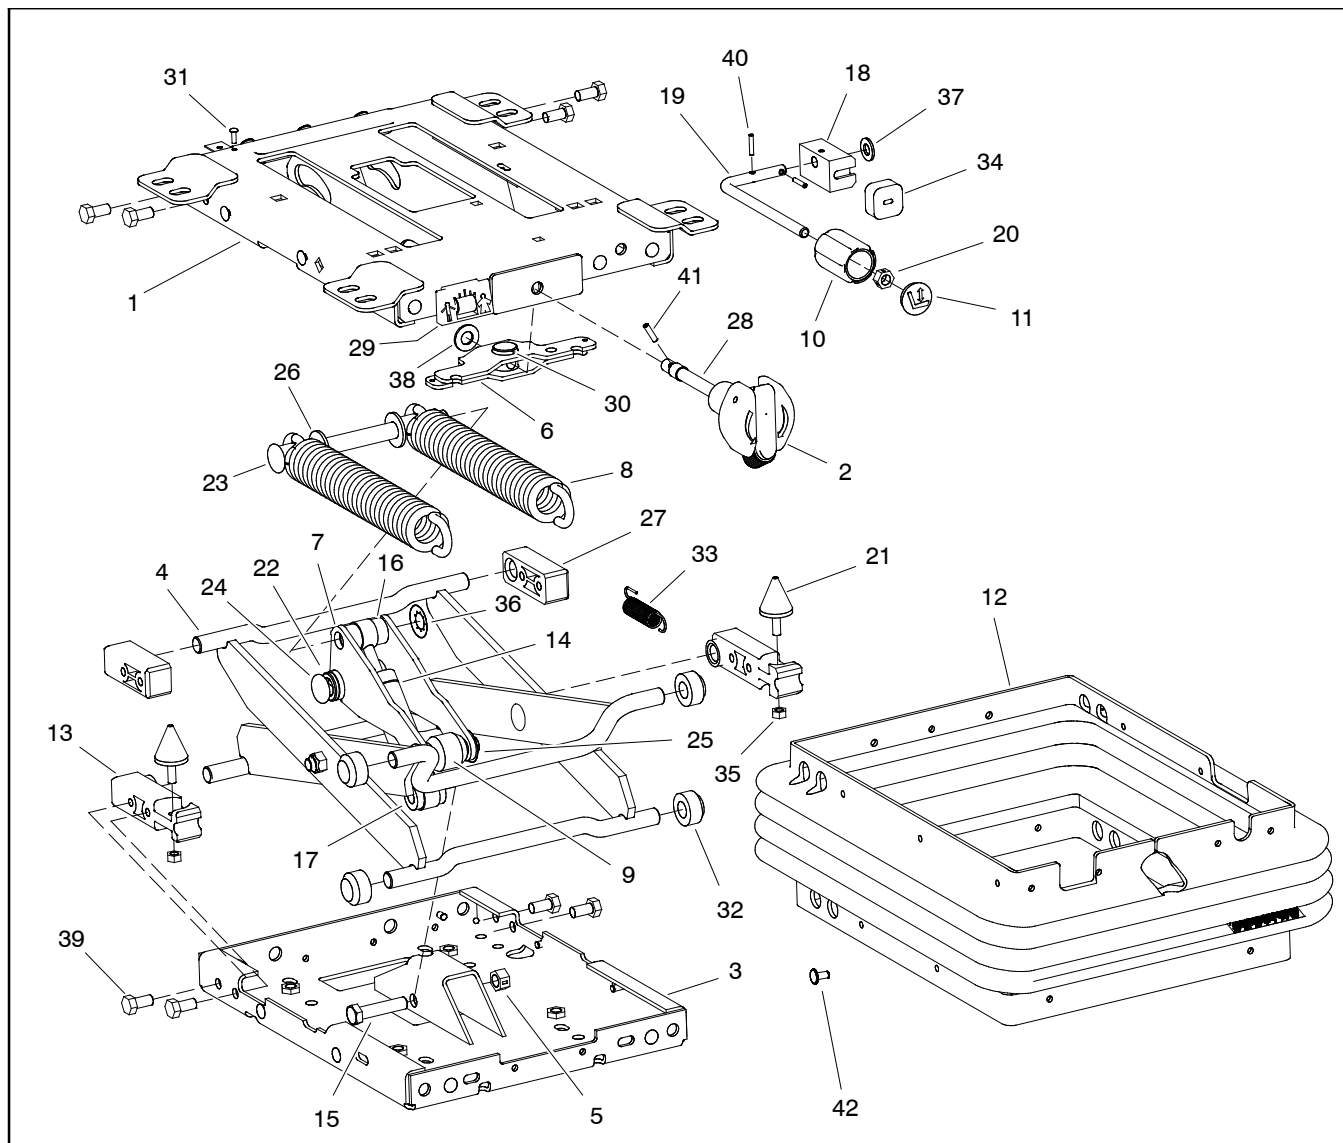

Figure 18
Removal (Figs. 18 and 19)
7. Remove seat suspension components as needed using Figures 18 and 19 as guides.
Installation (Figs. 18 and 19)
1. Install all removed seat suspension components using Figures 18 and 19 as guides.